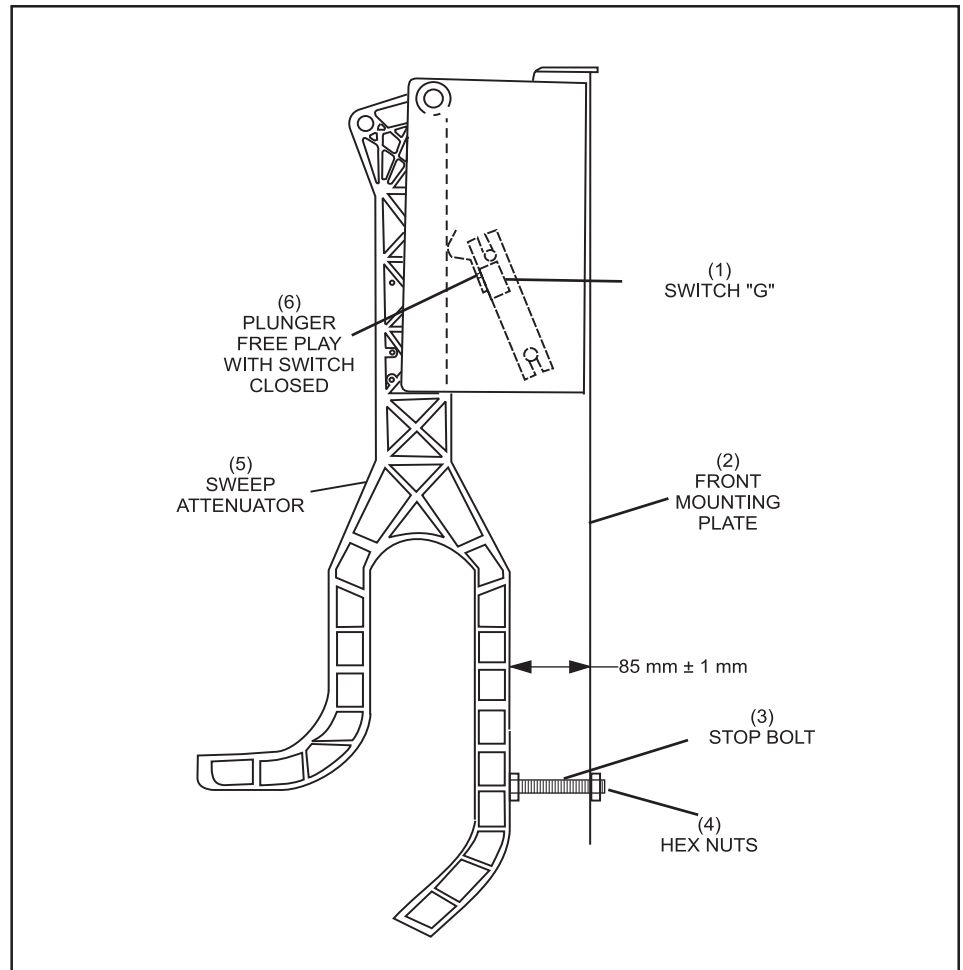

Figure 5-50. Sweep Attenuator/Switch "G" Adjustment.
- a. The attenuator rests against a stop bolt when the sweep is all the way down in the guarding position. Adjust the length of this screw to  $85 \text{ mm} \pm 1 \text{ mm}$  between the frame and the front of the attenuator. The should result in the attenuator being parallel with front mounting plate. Refer to *Figure 5-50*.
- (1) SWITCH "G"
- (2) FRONT MOUNTING PLATE
- (3) STOP SCREW
- (4) HEX NUTS
- (5) SWEEP ATTENUATOR
- (6) PLUNGER FREE PLAY WITH SWITCH CLOSED
- b. Adjust the "G" switch with the attenuator down. The switch's plunger must have free play with the switch closed. Refer to *Figure 5-50*.